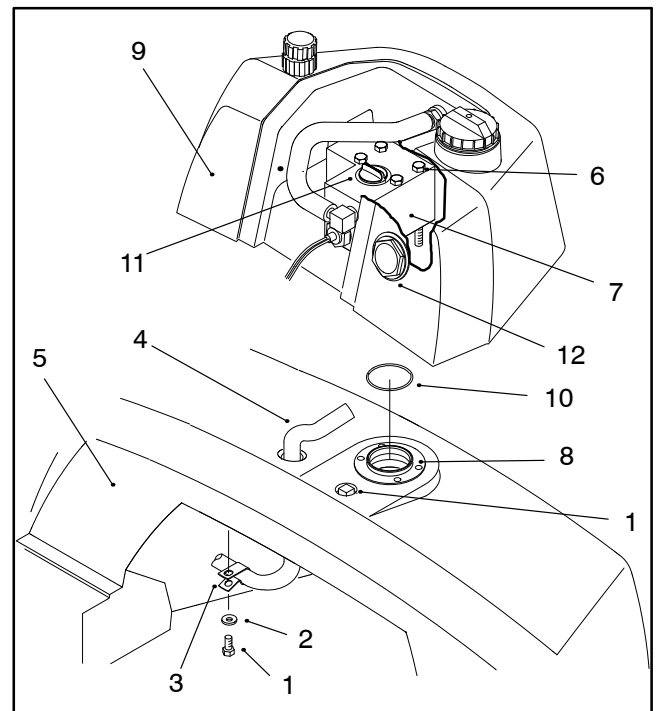

Figure 76
5. Remove cap screw and flat washer securing R-clamp and leak detector harness to the underside of the hydraulic tank. Pull clamp free of harness (Fig. 76).
7. Loosen four (4) cap screws securing the valve assembly to the fill neck on the hydraulic tank. Lift leak detection tank from the hydraulic tank. Remove O-ring from fill neck boss (Fig. 76).
4. Clean mating surfaces of block and fill neck with a clean, dry rag. Carefully place new O-ring over fill neck boss (Fig. 76).
5. Route wire harness through access hole in hydraulic tank. Align valve assembly with fill neck. Secure valve to hydraulic tank fill neck with four (4) cap screws (Fig. 76).
7. Remove plug from top of the valve assembly. Carefully fill float cavity to the top of the threads. Replace and tighten fill plug. Clean up any spilled oil (Fig. 76).
8. Before attaching cover plate, test leak detector switch with ignition key switch in **ON/RUN** position. The buzzer should sound with toggle switch held down for one (1) second.
9. If the buzzer fails to sound, check to see if the ignition key switch is in **ON/RUN** position, all connections are secure and the test switch is held for one (1) full second.
10. Secure cover plate and cap tether to the leak detection tank with five (5) cap screws and flat washers (Fig. 76).
11. Fill leak detection tank to the top of sight gauge (Fig. 76).